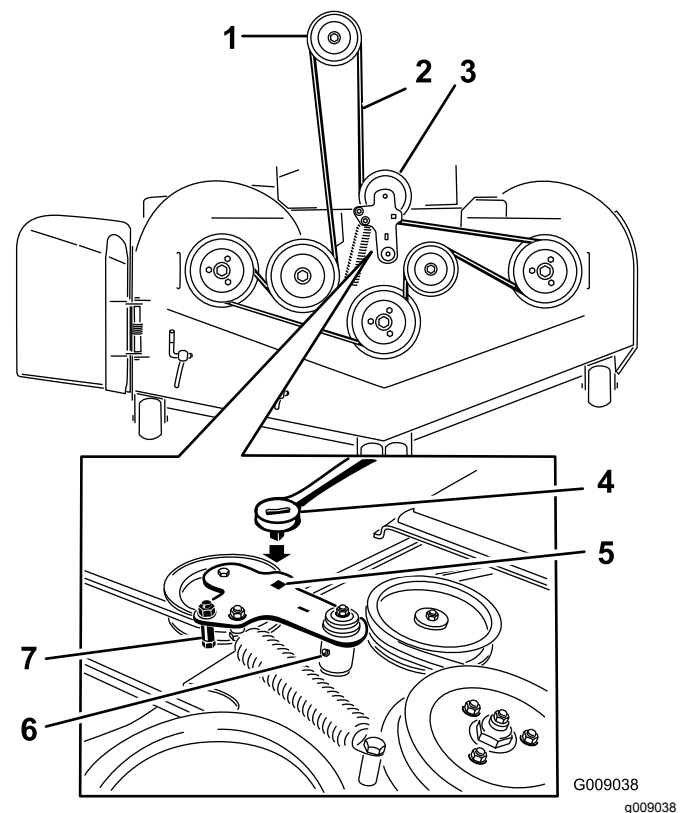
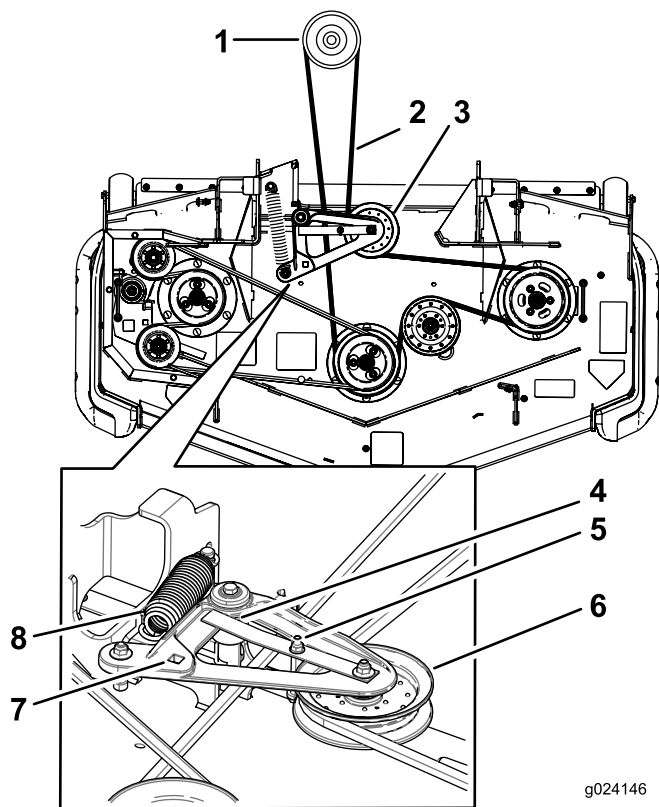

Figure 118
Figure 119
5. Lift up the floor pan and insert a ratchet into the square hole in the deck idler (Figure 118 or Figure 119).
and remove the mower belt (Figure 118 or Figure 119).